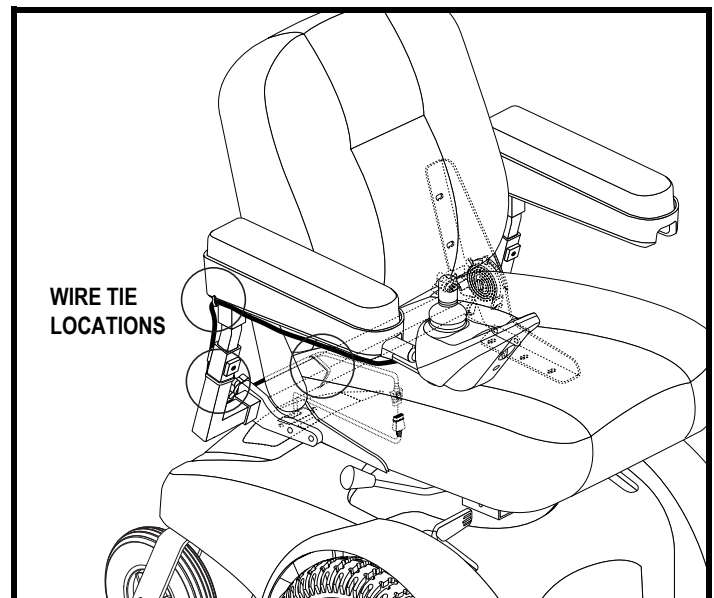

Figure 11. Controller Harness Routing
6. Secure the controller harness to the armrest receiver with wire ties. See figure 11.
11. Secure the controller harness to the armrest with wire ties. See figure 11.